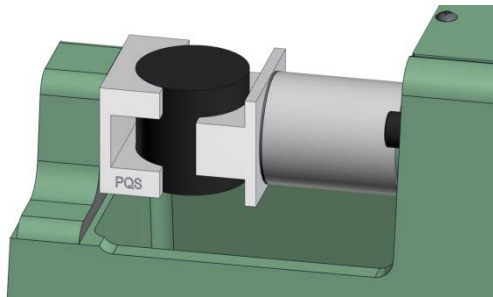

Figure 5.3.4
4. After the specimen breaks, the red Pressure Indicator Follower of the Low Pressure Gauge will display the maximum shear strength (σ_D in N/cm^2). Remove the specimen from the Universal Strength Machine. The maximum indicated value divided by two on the outer scale is the shear strength (σ_S in N/cm^2). See Figure 5.3.4 for test procedure.